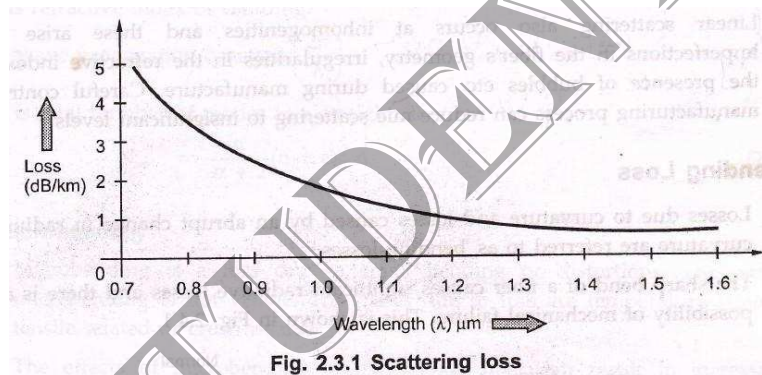

Fig. 2.3.1 Scattering loss
- x The other cause is slight change in density as the silica cools and solidifies. When light ray strikes such zones it gets scattered in all directions. The amount of scatter depends on the size of the discontinuity compared with the wavelength of the light so the shortest wavelength (highest frequency) suffers most scattering. Fig. 2.3.1 shows graphically the relationship between wavelength and Rayleigh scattering loss.